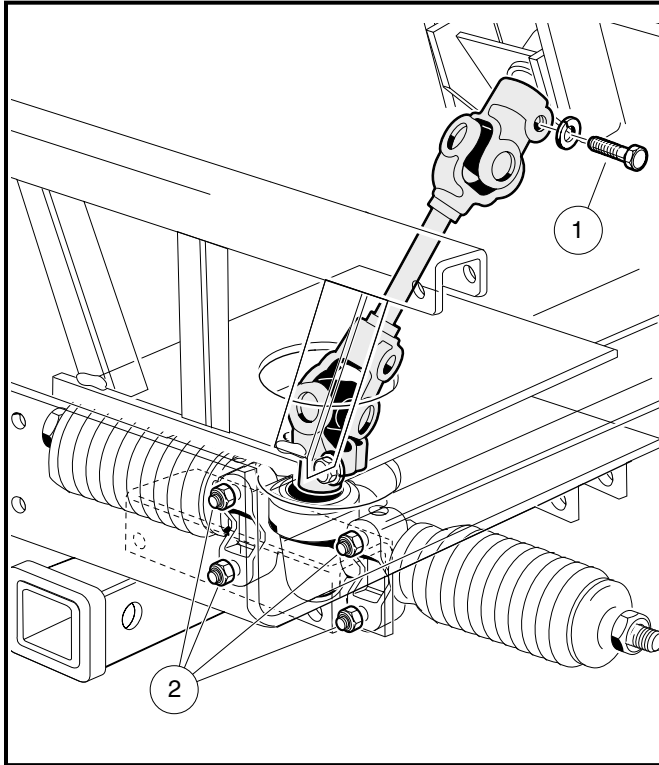

Figure 14-14 Compound Steering Joint
7. Remove the bolt (1) that connects the steering joint to the steering column shaft (**Figure 14-14, Page 14-18**).
8. Remove the four bolts and lock nuts (2) from the rack and pinion assembly mount and gently disconnect the steering joint from steering column shaft at the bolt (1) location (**Figure 14-14, Page 14-18**). Gently allow both the rack and pinion assembly and the steering column shaft to drop down, remaining suspended between both rod ball joint ends.
- 8.1. Slip the splined steering joint over the splined steering column shaft, aligning with the mark made during disassembly. Attach the bolt (1) through the steering joint flange and loosely attach the nut (**Figure 14-14, Page 14-18**).
- 8.2. Attach the rack and pinion assembly to the shock tower plate using the four bolts (2) and lock nuts (**Figure 14-14, Page 14-18**). Tighten to 20 ft-lb (27 N·m).